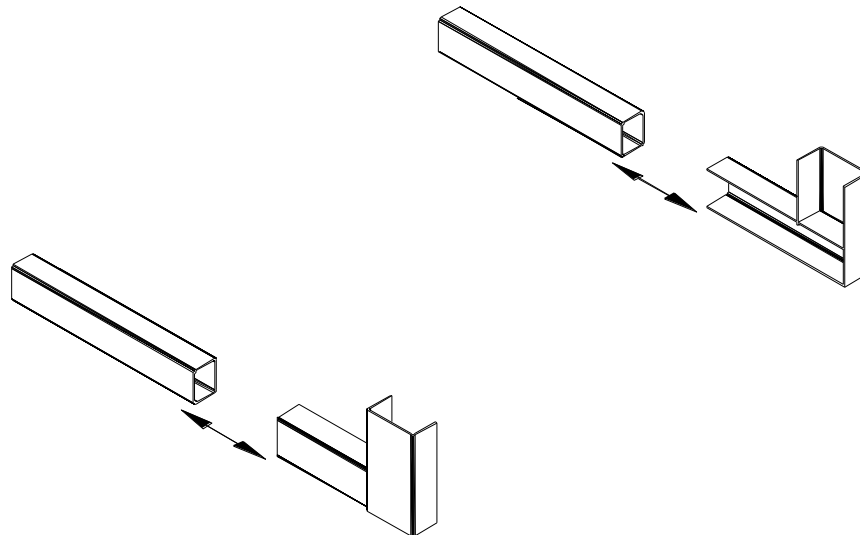

Figure 3
- 2) Slide the "L" shaped adjusting legs over the tubing, as shown in Fig. 3, and weld in place.